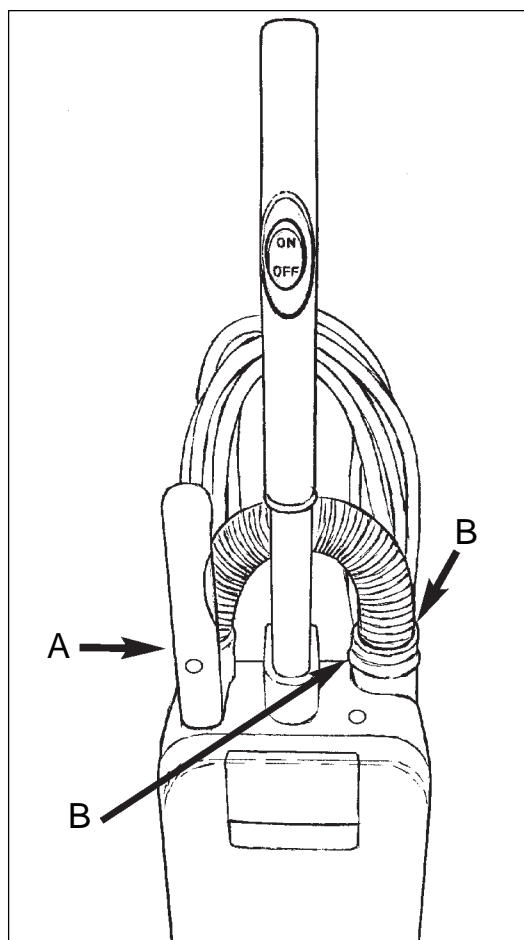

Figure 7
6. Position wand handle so that handle is towards the front of the machine (see figure 7, item A).
7. Attach hose to wand and canister (see figure 7). To attach hose properly, depress lock on canister (see figure 7, item B).